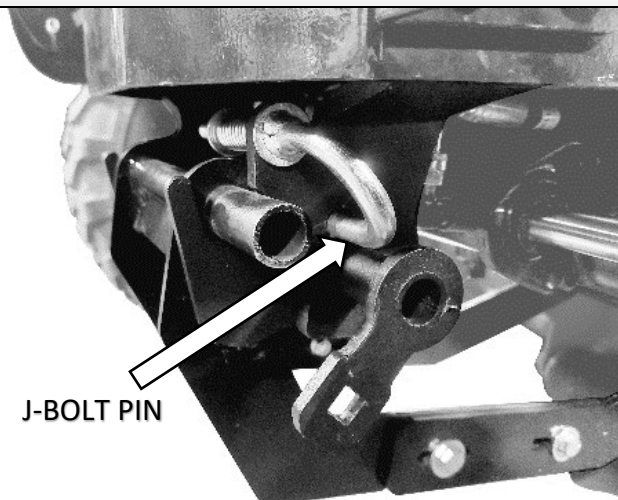

Figure 10C
10. Align the corresponding holes and lock in place with the J-Bolt Pin (Figure 10C).